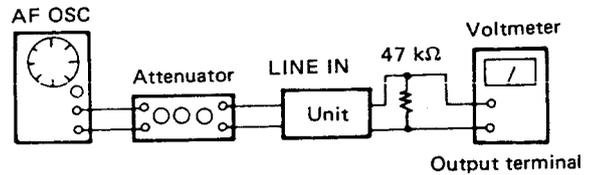

Fig. 9
Note: Connect the test equipment as shown Fig. 9.
- 1) Connect the test equipment as shown in Fig. 9.